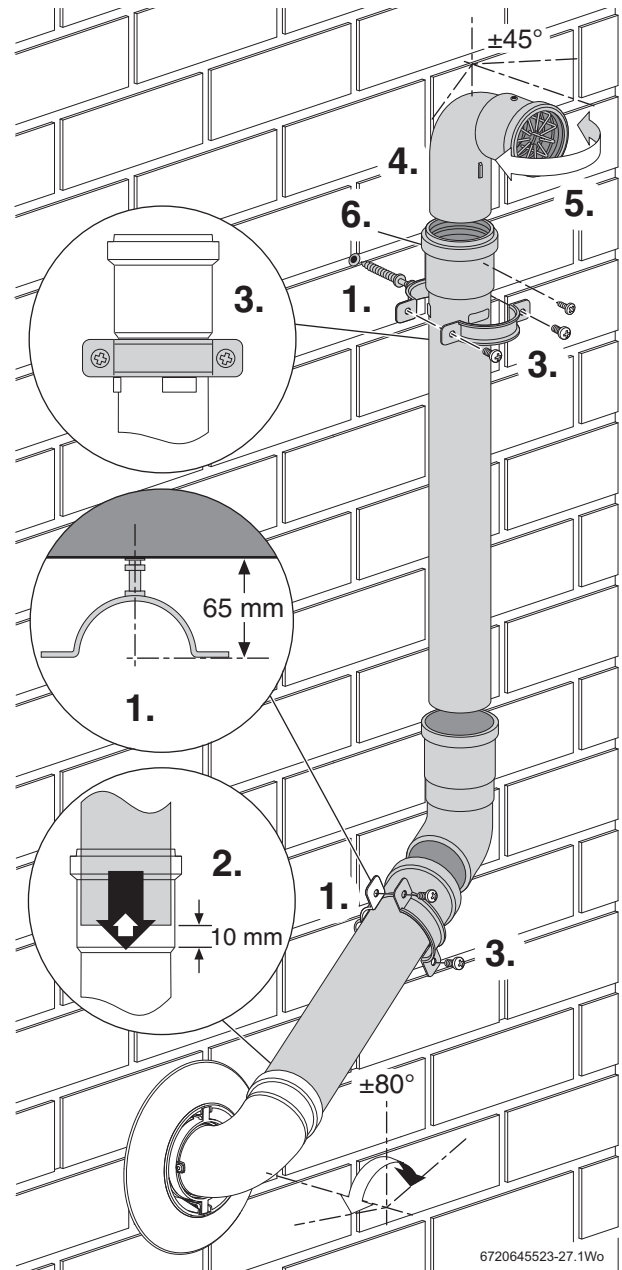

Fig. 52 Plume extensions
- Refer to figure 52 and assemble the plume extensions.